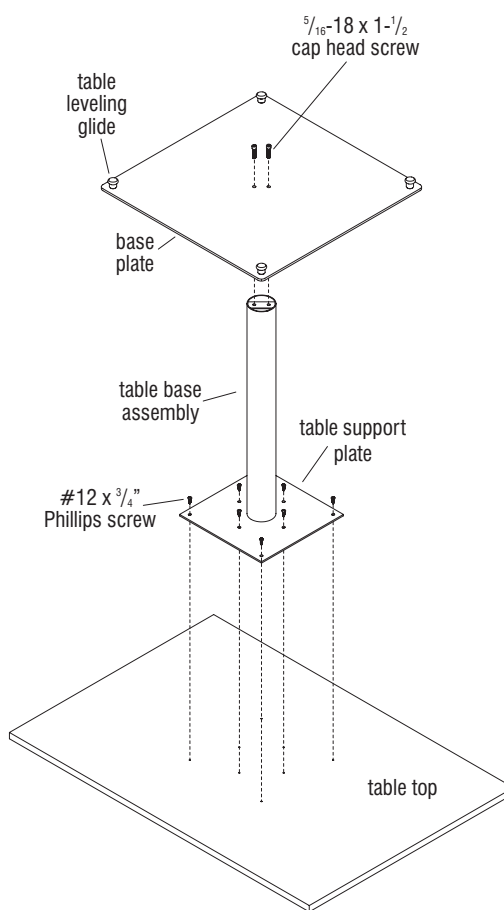

Figure 2
3. Carefully flip the table column assembly over so the table support plate is down. Position the base plate over the table column as illustrated, aligning the mounting holes in the base plate with the threaded strap in the column. Insert two 5/16-18 x 1 1/2" cap screws through the plate and twist into the column. Use a 1/4" hex driver to tighten the cap head screws between 20 and 25 foot pounds of force (Figure 2).
4. Carefully set table top upside down onto a soft, protective surface. Position the table support plate of the table base assembly over the appropriate pre-drilled hole pattern in the underside of the top. Secure using eight #12 x 3/4" Phillips pan head screws. Do not over-tighten (Figure 2).
5. Carefully turn table assembly to the upright position at its use location. Adjust table leveling glides as needed to level and stabilize the table (Figure 2).